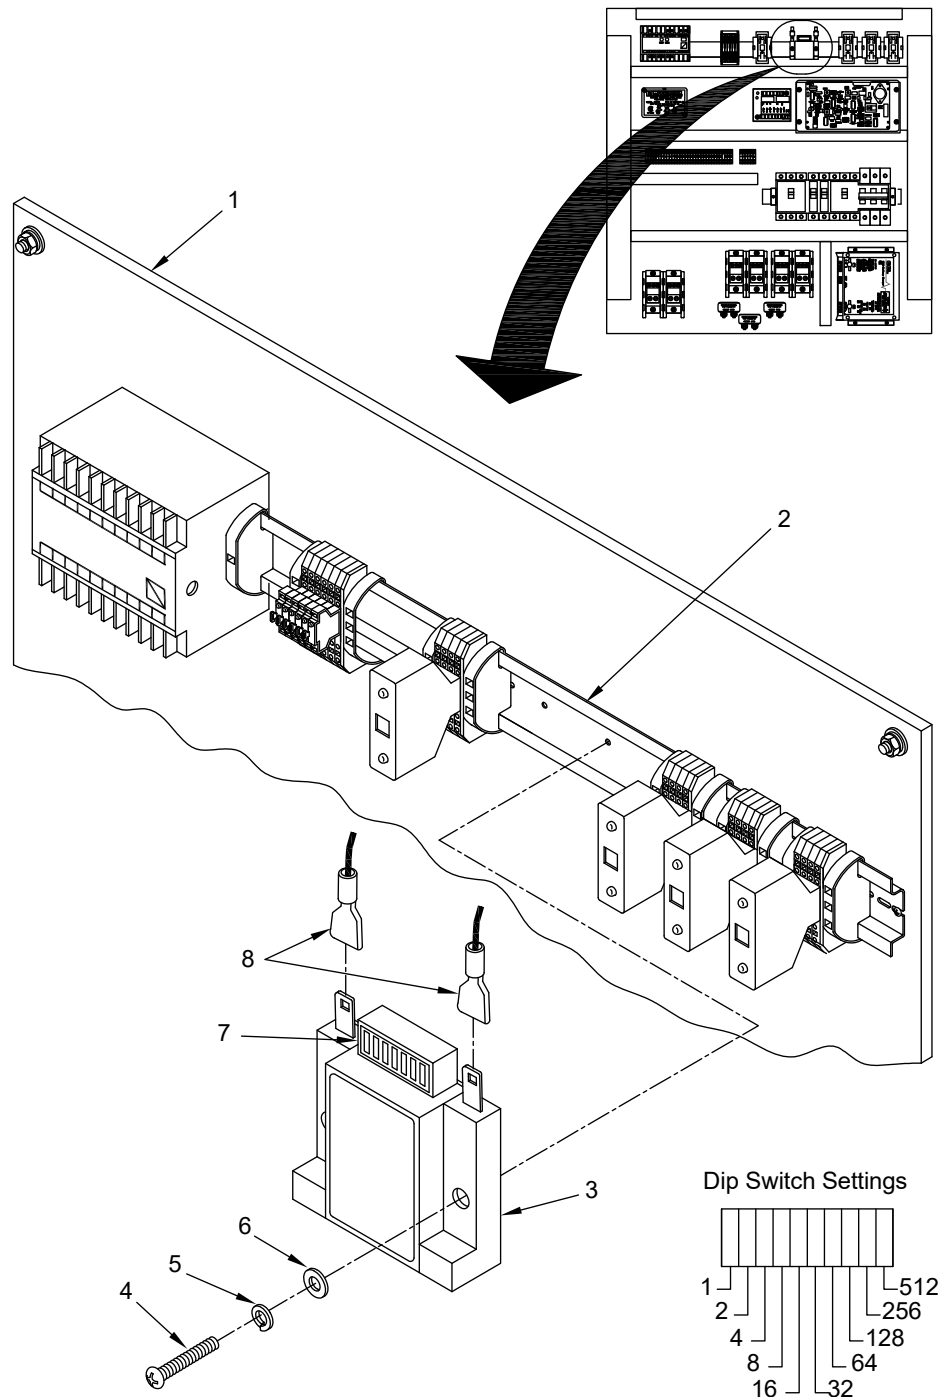

Figure 1. Time Delay Removal/Replacement.
4. Mark and disconnect two terminals (Figure 1, Item 8) from time delay (Figure 1, Item 3).
5. Remove and retain two screws (Figure 1, Item 4), lock washers (Figure 1, Item 5) and flat washers (Figure 1, Item 6) that secure time delay (Figure 1, Item 3) to barrier panel (Figure 1, Item 1).
1. Place time delay (Figure 1, Item 3) onto rail (Figure 1, Item 2) of barrier panel (Figure 1, Item 1).
2. Secure using two screws (Figure 1, Item 4), lock washers (Figure 1, Item 5) and flat washers (Figure 1, Item 6).
3. Verify that DIP switches (Figure 1, Item 7) are set for a four second delay (see Figure 1).
4. Connect two terminals (Figure 1, Item 8) to time delay (Figure 1, Item 3).